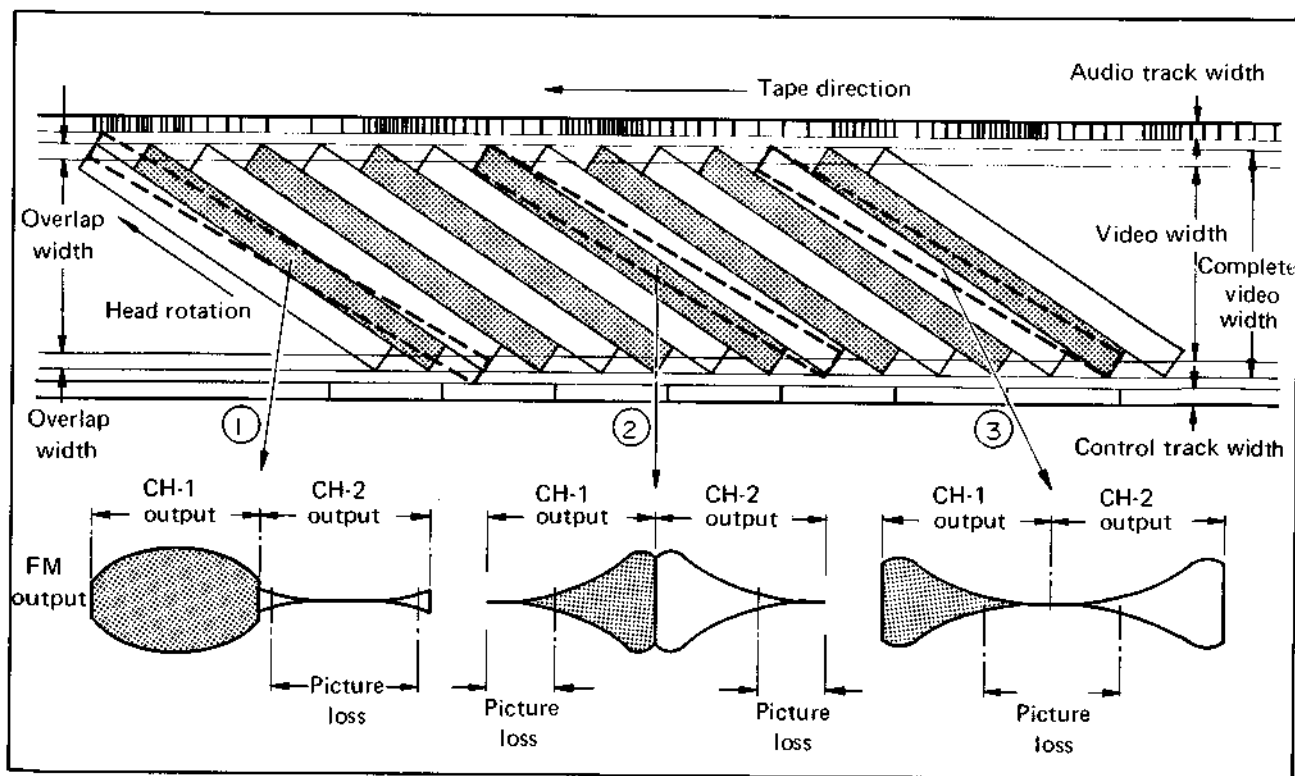

Fig. 2-1 HR-3330E still playback
Fig. 2-1 shows a simplified diagram of the HR-3330E magnetic tape pattern and output signals in the still playback mode. As can be noted from the figure, the playback trace of the video heads becomes slightly inclined from that during the normal playback mode, leading to FM output signal configurations indicated by cases ①, ② and ③.
Case ① of Fig. 2-1 shows the optimum CH-1 FM output. While the CH-1 head remains in this condition, it is also possible to obtain an adequate output from the CH-2 head by changing its installation height (height relative to the CH-1 head). Of course, simply changing the head height would both impede recording performance and render the machine incompatible with VHS specifications.
straddles two tracks. However, the picture loss indicated in Fig. 2-1 becomes largely eliminated and an essentially complete still playback picture can be obtained.